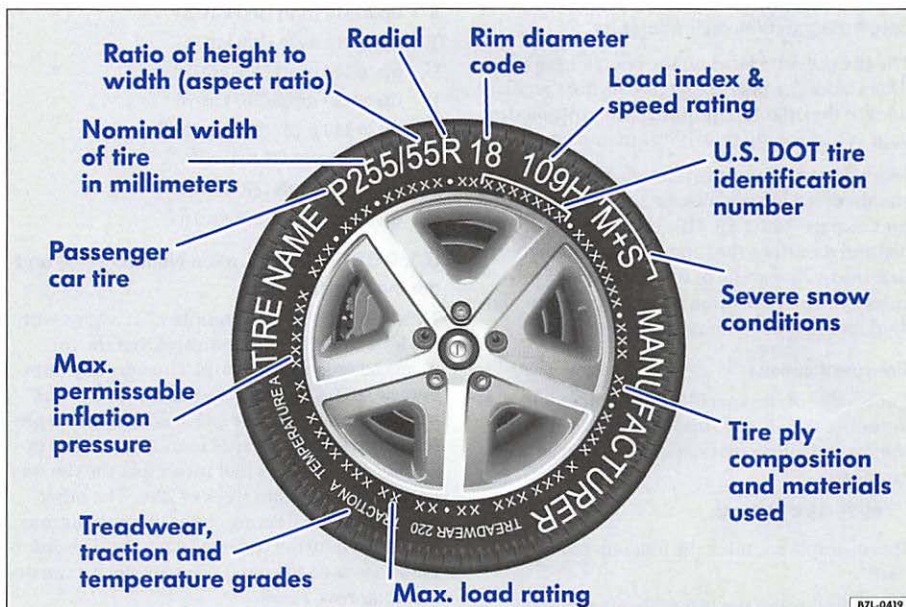

Fig. 19 Tire specification codes on the sidewall of a tire
– Check the tire sidewall (⇒ page 73, fig. 19) to determine the designated load rating for a specific tire. ◀
Federal law requires tire manufacturers to place standardized information on the sidewall of all tires ⇒ page 73, **fig. 19**. This information identifies and describes the fundamental characteristics, the quality grade of the tire and also provides a tire identification number for safety standard certification and in case of a recall.
Quality grades can be found where applicable on the tire side wall between tread shoulder and maximum section width ⇒ page 73, fig. 19.